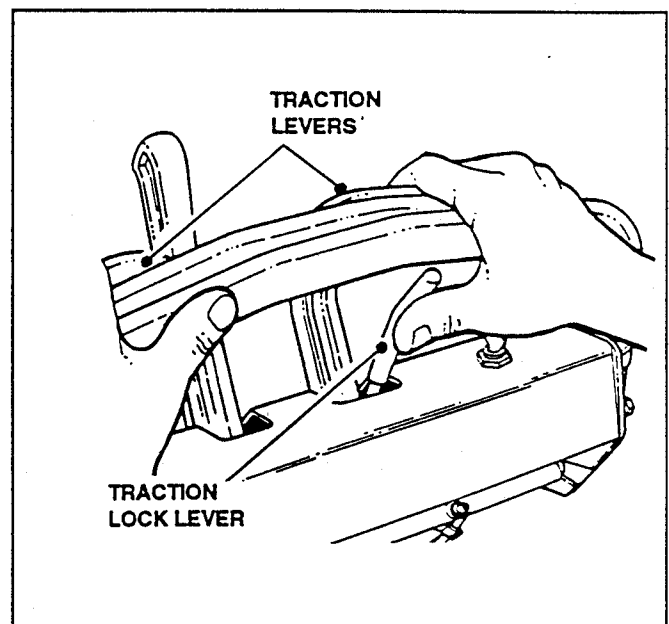

FIGURE 14
13. a. **LOOP HANDLE - TO STOP MOWER**, simultaneously squeeze both Traction Levers firmly against the handlebar while pushing the Traction Lock Lever forward, until latched. See Figure 14.
1. To **REVERSE DIRECTION OF MOWER**, stop Mower and latch Traction Lock Lever (S).
3. Move Transmission Shift Lever to **REVERSE (R)** position.
- 7a. **LOOP HANDLE - TO STOP MOWER**, simultaneously squeeze both Traction Levers firmly against the handlebar while pushing the Traction Lock Lever forward, until latched. See Figure 14.